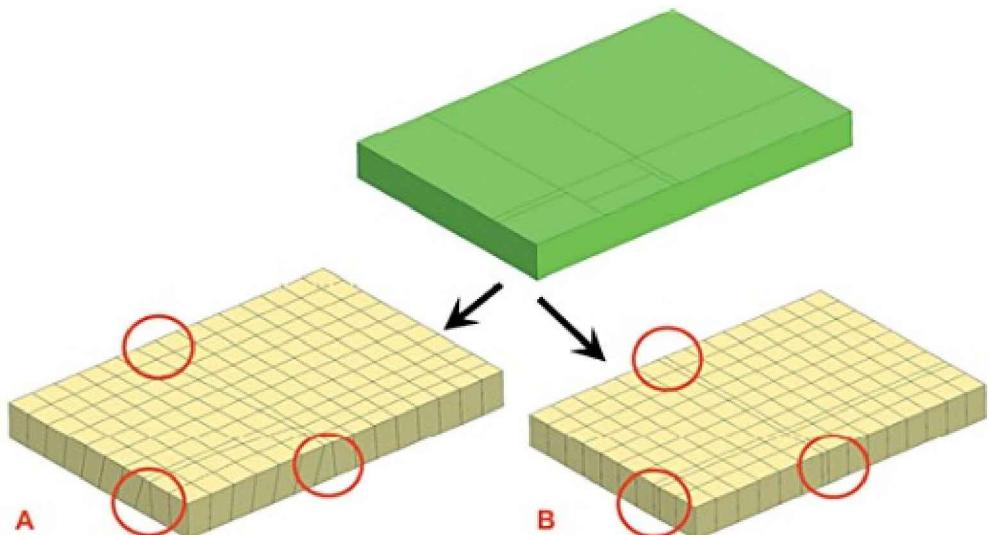

Figure 3.21. Edge Mapping:
- Select *Edge Mapping* to enable exact projection of nodes from source face edges to target face edges (Figure 3.21).
- Select *Edge Mapping* to achieve a more regular and uniform mesh by projecting nodes from an edge to the opposite edge. The same option is applied when creating regular meshes on generating faces (Figure 3.21) when you use the **3D Swept Mesh** command.